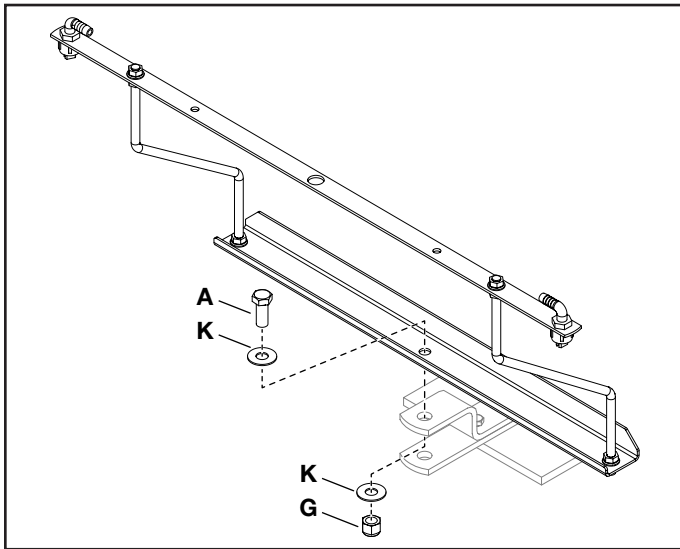

FIGURE 7
STEP 7: (SEE FIGURE 7)
- Attach the boom support bracket (2) to the tractor hitch using one hex bolt (A), two washers (K), and one hex nut (G).